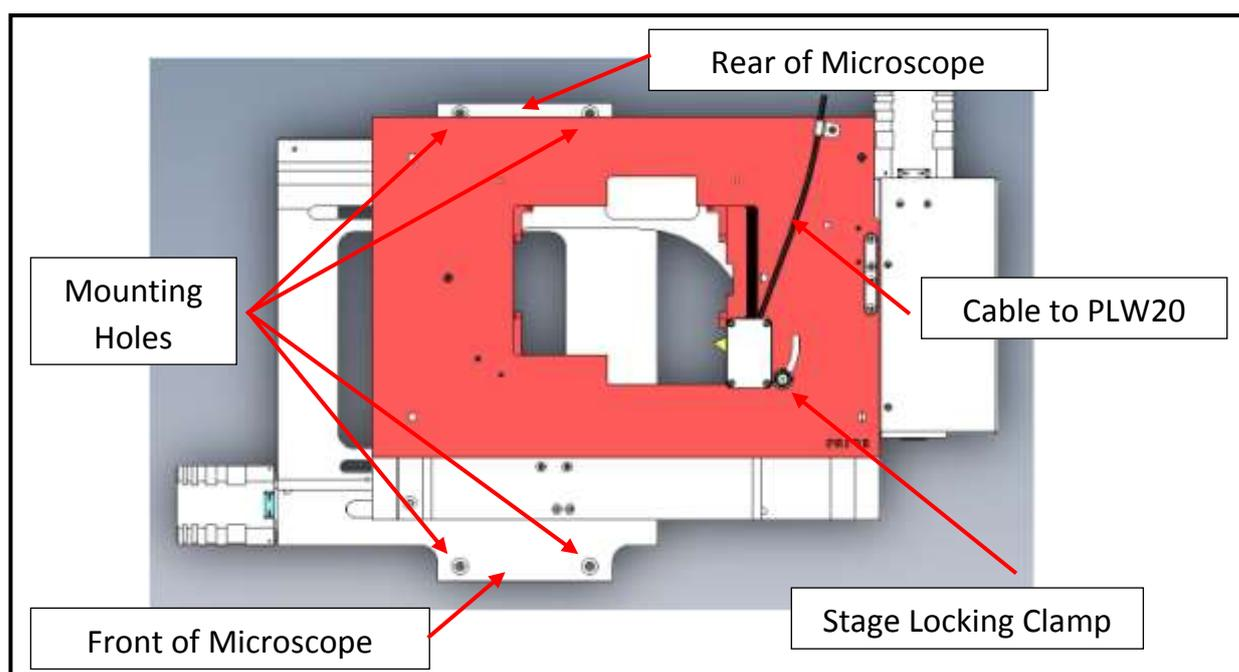

Fig: 11
- 1 Place the stage onto the microscope stage mount and attach using the fixing screws or clamping screw supplied. (Fig 11)